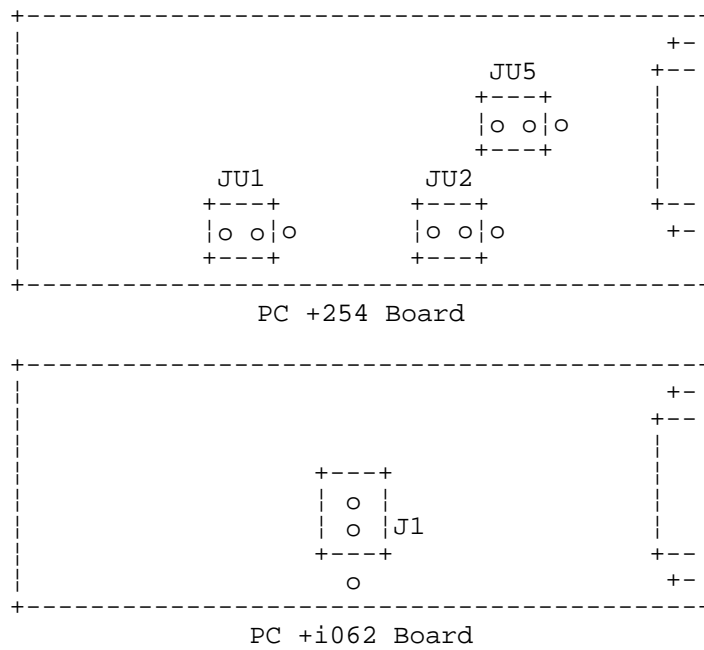

Figure 9.2 Megatel Board Jumper Positions
3. Verify jumper(s) on Megatel Board are installed as shown in Figure 9.2. Note there are two versions of Megatel boards.